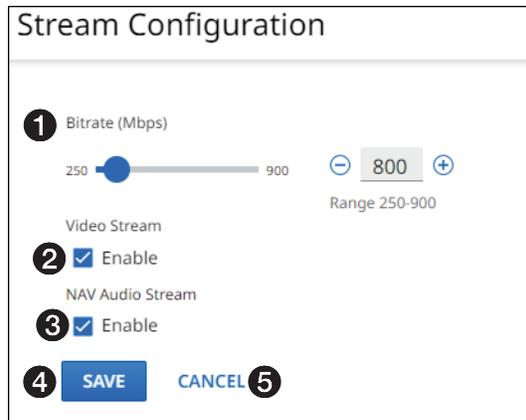

Figure 16. Stream Configuration Dialog Box
If you change any of the settings in the **Stream Configuration** dialog box (see figure 16, ❶ through ❸), the **SAVE** button (❹) becomes selectable. Click **SAVE** to take changes or **CANCEL** (❺) to abandon them. Clicking either button closes the dialog box.